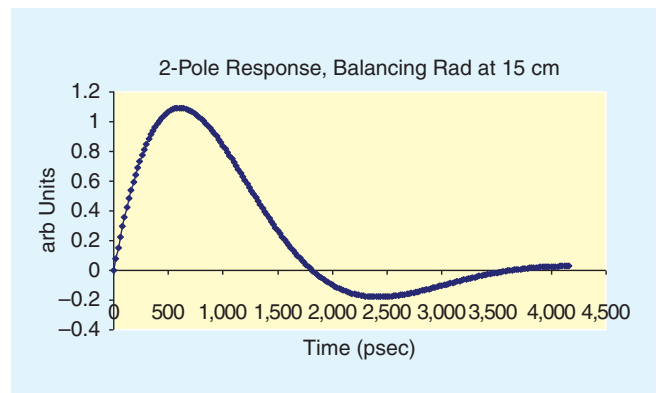

Fig. 4. 2-pole pulse source that would cancel radiation zeros at 15 cm.
Figure 4 shows the sort of $I(t)$ pulse that results in pole-zero cancellation as described above for Eq. (4). This one was done for $\tau = 500$ psec because it is closer to a CDM pulse that will interest us. All such pulses for E_θ look the same; only the time scale changes. The damping factor ($D = RC/2\sqrt{LC}$) is 0.5, underdamped as is the case when the two poles are complex conjugates. In this case, the dark sphere as in Fig. 3 would occur at 15 cm or about 6 inches.
Note the cancellation of s -terms, now that there is no static field, and of an r since $c\tau = r$. $H_\phi(t)$ can thus be seen as a mixture of $I(s)$ and its derivative. The two-pole $I(s)$ of Eq. (3) starts at 0 and has a finite derivative (as in Fig. 4), so clearly $H_\phi(t)$ is finite at $t = 0$ (i.e., no impulse due to differentiating a perfect step), so we agree that, for pole-zero cancellation, there is no energy flow through the dark sphere even at $t = 0$. The radiation zero for H_ϕ is real and negative, at $-1/\tau$, but there
A simple example with no zeros would be two complex conjugate poles following Eq. (5) for $\tau = 500$ psec and a normalized (integrating to 1) version of the current (3) as plotted in Fig. 4, or
as described above, and found the expected participation of $\sqrt{3}$ in the natural frequencies and precisely the same current waveform as Fig. 4, aside from the time scale set by τ . The appearance of the dark sphere as discussed above is, again, explained by pole-zero cancellation at a critical radius. Now let us try some field calculations.